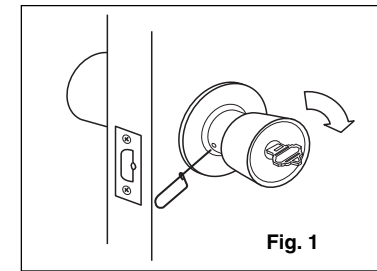

Fig. 1
- Pull knob assembly from lock assembly. (Fig. 1)